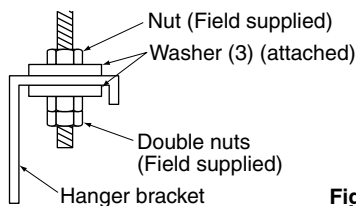

Fig. 10
(1) **Secure the hanger brackets to the suspension bolts. (Refer to Fig. 10) Refer to Figure 10.**